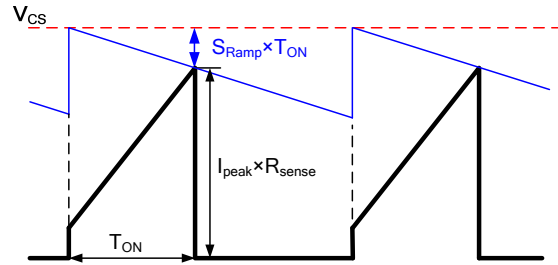

Figure 9: Slope Compensation Waveform
Figure 9 shows the slope compensation waveform. When the sum of the sense resistor voltage and the slope compensation voltage reaches the peak current limit ( $V_{CS}$ ), the HF900 turns off the internal MOSFET. The maximum peak current limit is 0.97V ( $V_{CS}$ , typical value), and the slope compensation slew rate is 40mV/ $\mu$ s. Considering the margin, use  $0.95 \times V_{CS}$  as the peak current limit at full load. The voltage on the sense resistor is given using Equation (13):